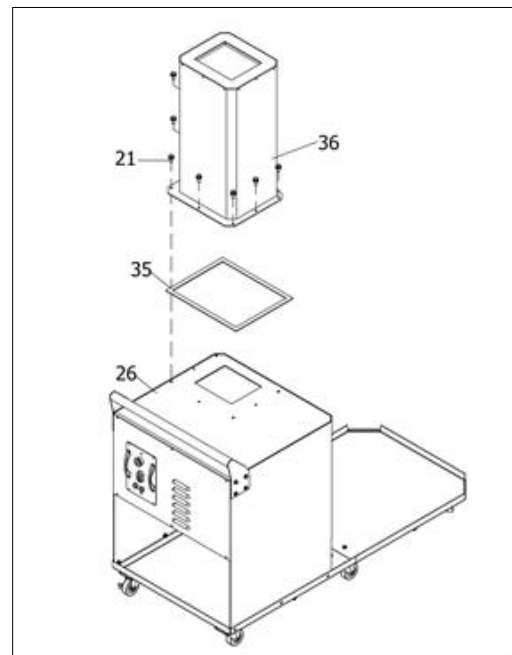

Figure 8-4: Setup Installation Cont'd
8. Assemble the Muffler (NO. 36) onto the Main Housing (NO. 26) and tighten with Flange Bolts (NO. 21). See Figure 8-4. Tighten with the supplied wrench.